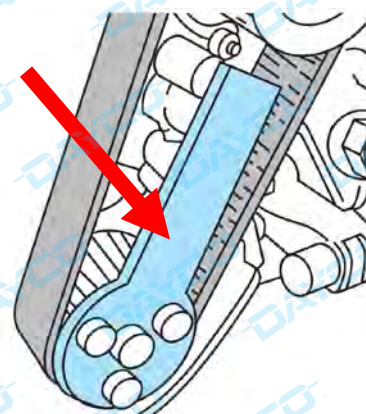

Fig.2
- Install the crankshaft locking tool (2.000.004.500). See Fig. 2.